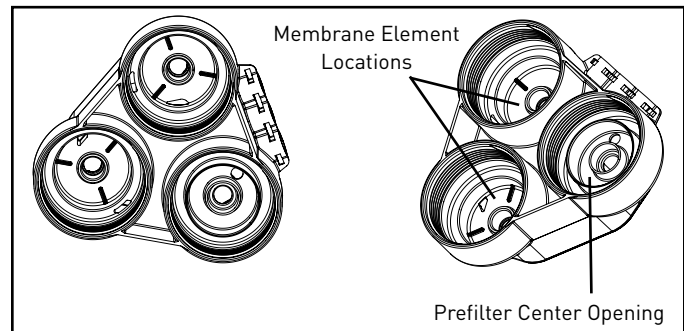

Figure 14
- Pour a tablespoon (15 milliliters) of chlorine bleach into the center opening of the prefilter sump connection. See "Figure 14".